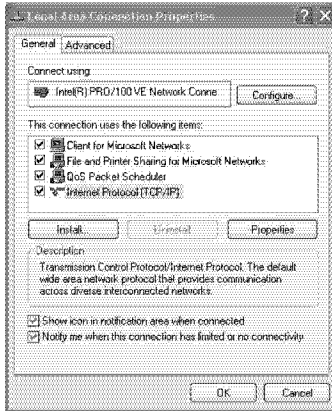

Figure 19: Local Area Connection Properties Window
5. Select the Internet Protocol (TCP/IP) and click the **Properties** Button (see Figure 19).